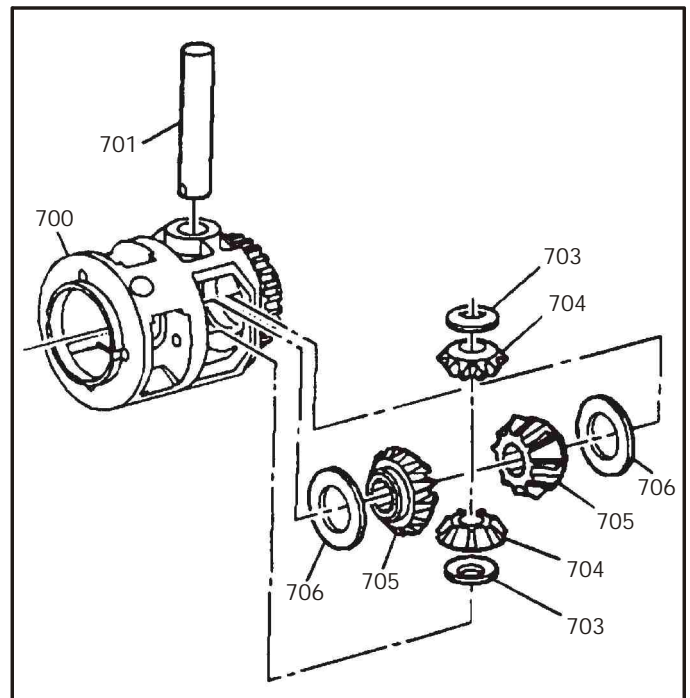

Figure 88
17. Install the differential side gear thrust washers onto the side gears and retain with "Trans-Jel". Refer to Figure 88.
18. Install the side gears with the thrust washers into the differential carrier (See Figure 88).
19. Install the differential pinion thrust washers on the pinion gears and retain with "Trans-Jel". Refer to Figure 88.
20. Install the pinion gears with thrust washers into the differential carrier housing. Rotate pinion gears into position and install differential cross shaft (701) in carrier housing (See Figure 88).